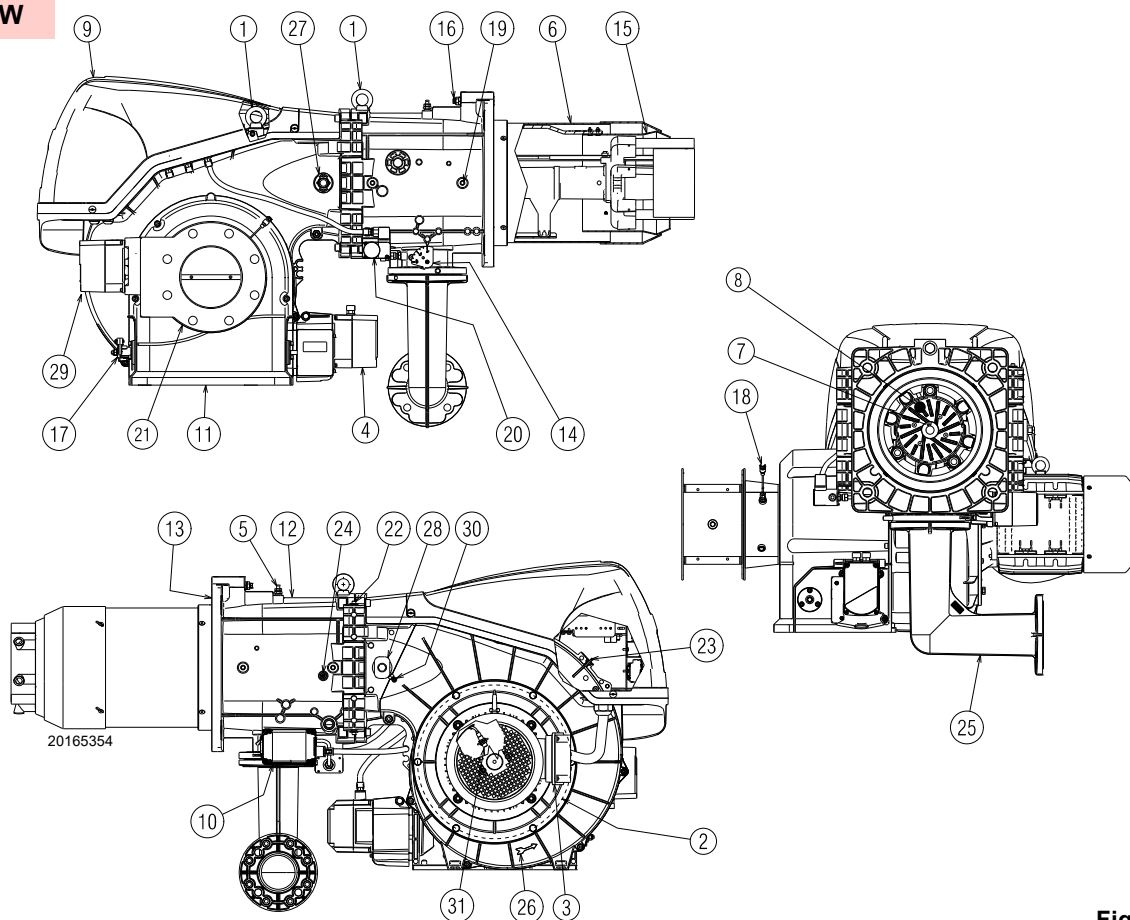

Fig. 4
- (1) Reference conditions: Ambient temperature 20°C - Gas temperature 15°C - Barometric pressure 1013 mbar - Altitude 0 m a.s.l.
- (2) Pressure at the test point of the pressure switch 5)(Fig. 4 on page 13) with zero pressure in the combustion chamber and at maximum burner output.
- (3) Sound pressure measured in manufacturer's combustion laboratory, with burner operating on test boiler and at maximum rated output. The sound power is measured with the "Free Field" method, as per EN 15036, and according to an "Accuracy: Category 3" measuring accuracy, as set out in EN ISO 3746.